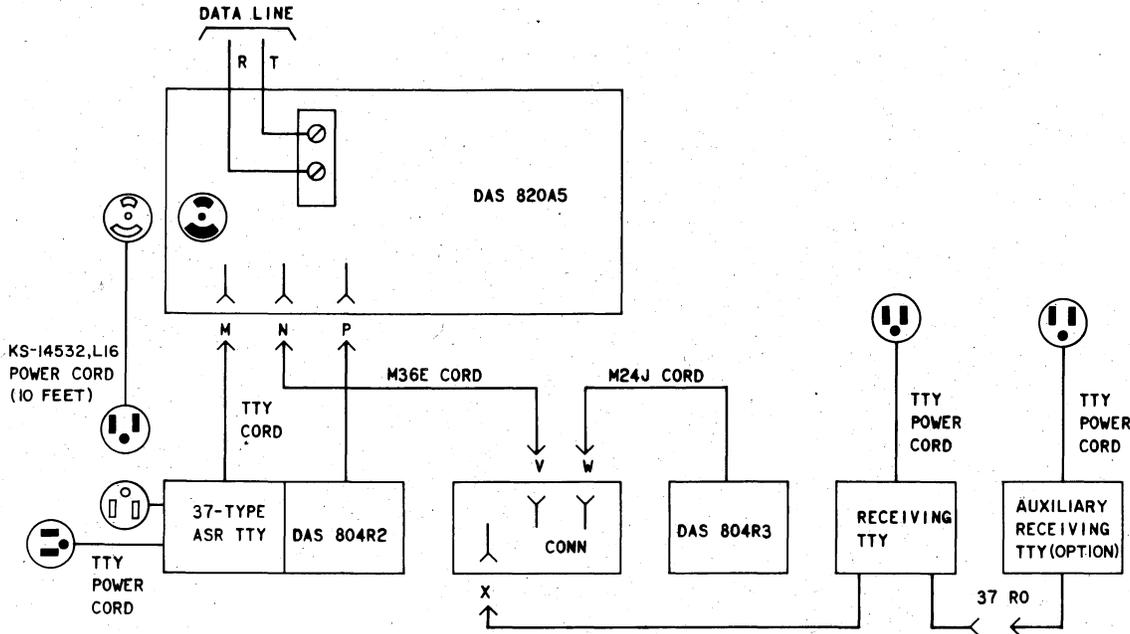
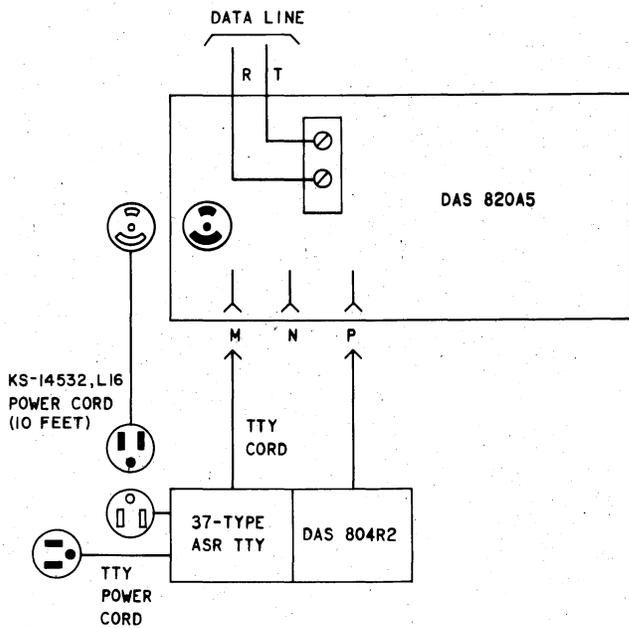
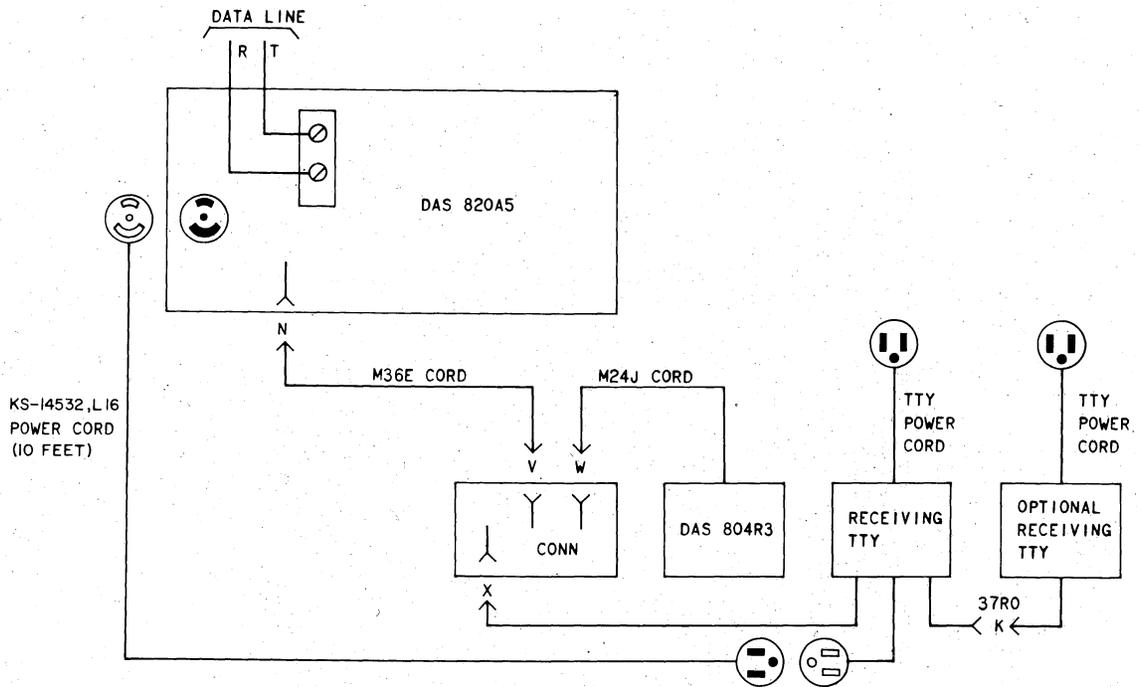
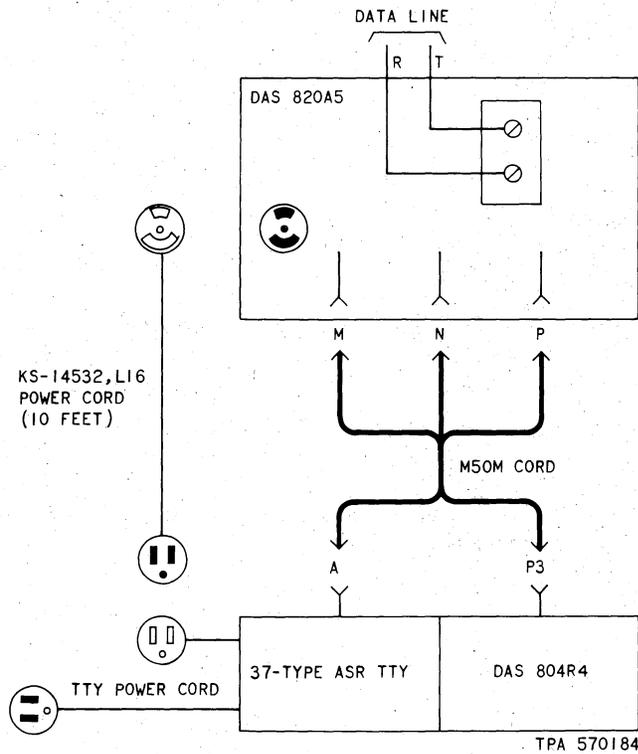

Fig. 4—Interconnection of 37-Type Standard ORIG/TERM Station
Fig. 5—Interconnection of 37-Type ORIG ONLY Station
Fig. 6—Interconnection of 37-Type TERM ONLY Station
Fig. 7—Interconnection of 37-Type Split ASR ORIG/TERM Station
1.02 This section is reissued to include information pertaining to the split ASR ORIG/TERM station and data sets 108E and 109E-type, to make reference to the lock strip bar (card-extracting tool), and to add Fig. 7, 9, and 10.
3.01 The interconnection of the 37-type TTY station is shown in Fig. 4, 5, 6 and 7. The figures are shown for a primary station (with or without auxiliary TTY). Figure 4 illustrates a standard originate/terminate station; Figure 5 illustrates an originate only station, Figure 6 illustrates a terminate only station, and Figure 7 illustrates a split ASR originate/terminate station.